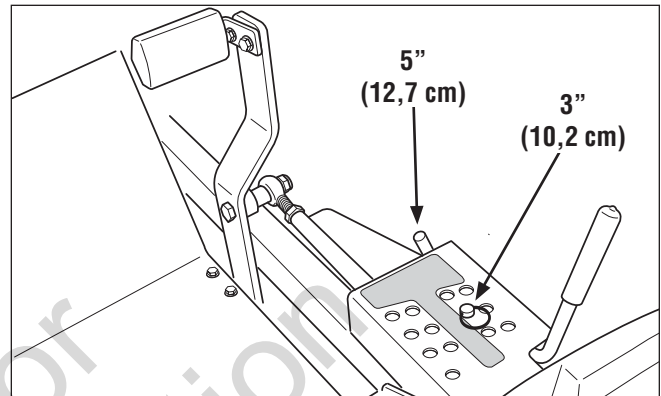

Figure 40. Deck Lift Pedal & Pin Position
5. To ensure that the deck is in the lowest position, push the pedal by hand towards the rear of the unit and install the height adjustment pin in the 3" (7.6cm) position to hold in place. See Figure 40.